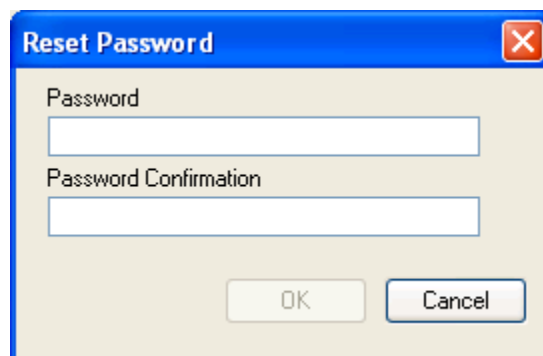

Figure 60 - Reset Password Window
1. Click on the **Reset Password** button. The **Reset Password** window (Figure 60) appears.